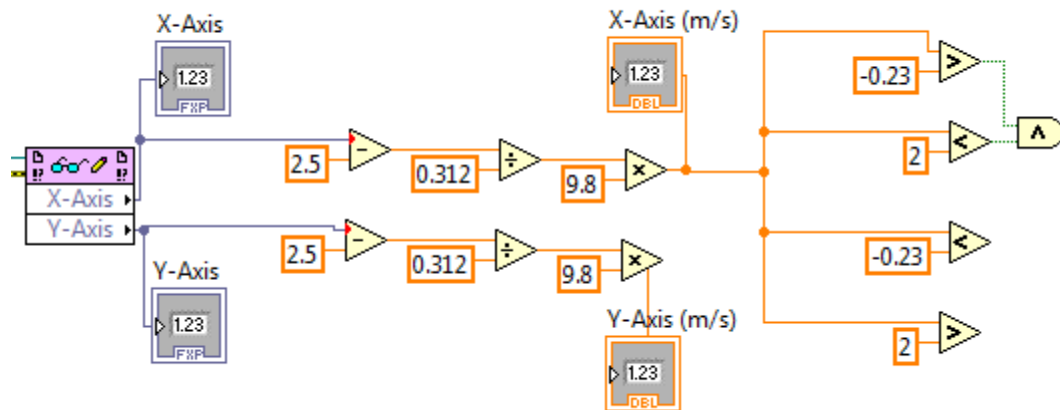

Figure 4.6
Step 9: Now three conditions must be created based on the readings from the sensors. Only one axis will be used, and the axis will depend on the orientation of the sensor mounted on the robot. For the purposes of this tutorial, we will use the X-Axis. The three conditions are: Acceleration < -0.23 , $-0.23 < \text{Acceleration} < 2$, and Acceleration > 2 . When coding this in LabVIEW, it will be similar to figure 4.6.